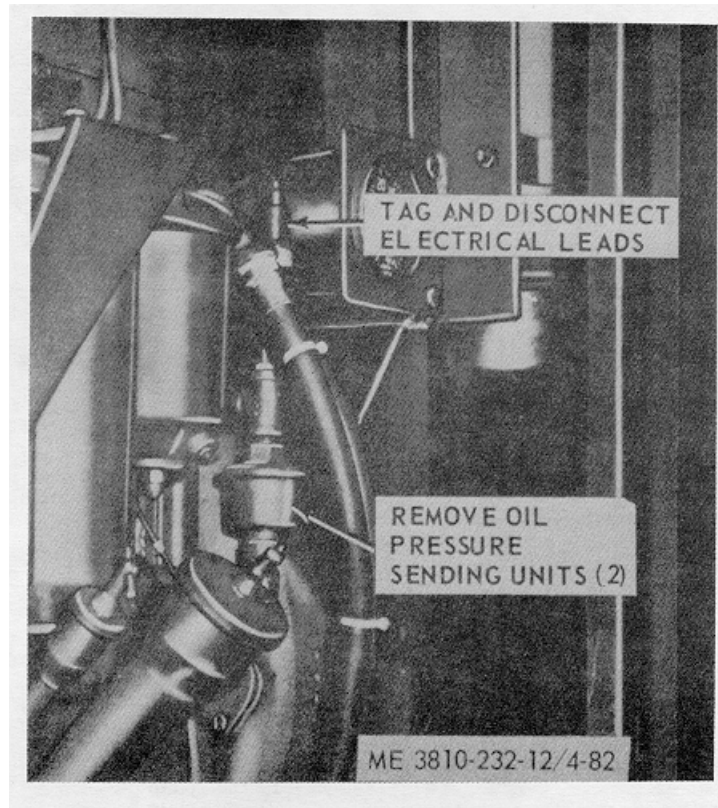

Figure 4-82. Crane engine oil pressure sending unit and pressure switch, removal and installation.
- a. Removal.** Remove oil pressure sending unit and pressure switch as illustrated in figure 4-82.
- (1) Clean parts with a damp cloth.
- (2) Inspect for defects and damage.
- (3) Replace defective or damaged unit.
- c. Installation. Install oil pressure sending unit and pressure switch as illustrated in figure 4-82.
- (1) Drain cooling system.